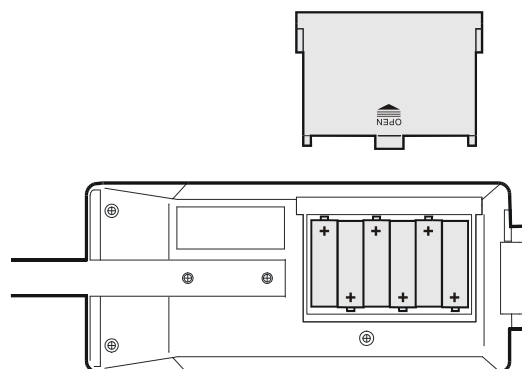

Figure.3
- According to the direction of the “OPEN” arrow on the battery compartment, pull out the battery compartment cover. Insert 6 x AA batteries into the compartment as indicated by the polarity symbols marked inside the compartment (Figure.3).